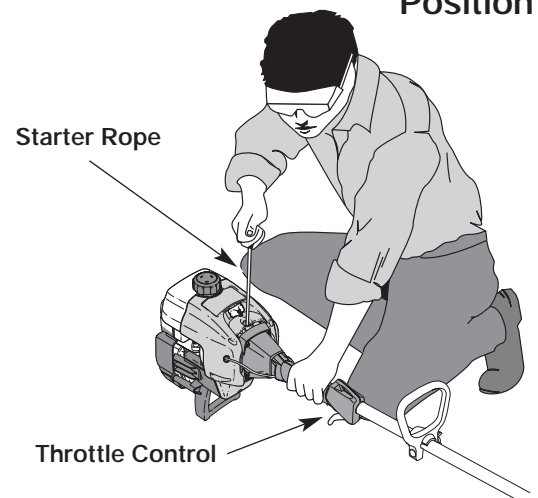

Fig. 8
WARNING: Avoid accidental starting. Make sure you are in the starting position when pulling the starter rope (Fig. 8). To avoid serious injury, the operator and unit must be in a stable position while starting. Make sure that any Add-On item is installed correctly and secure before starting the unit.
5. Crouch in the starting position and **do not squeeze the throttle control** (Fig. 8). Pull the starter rope up to 10 times briskly,